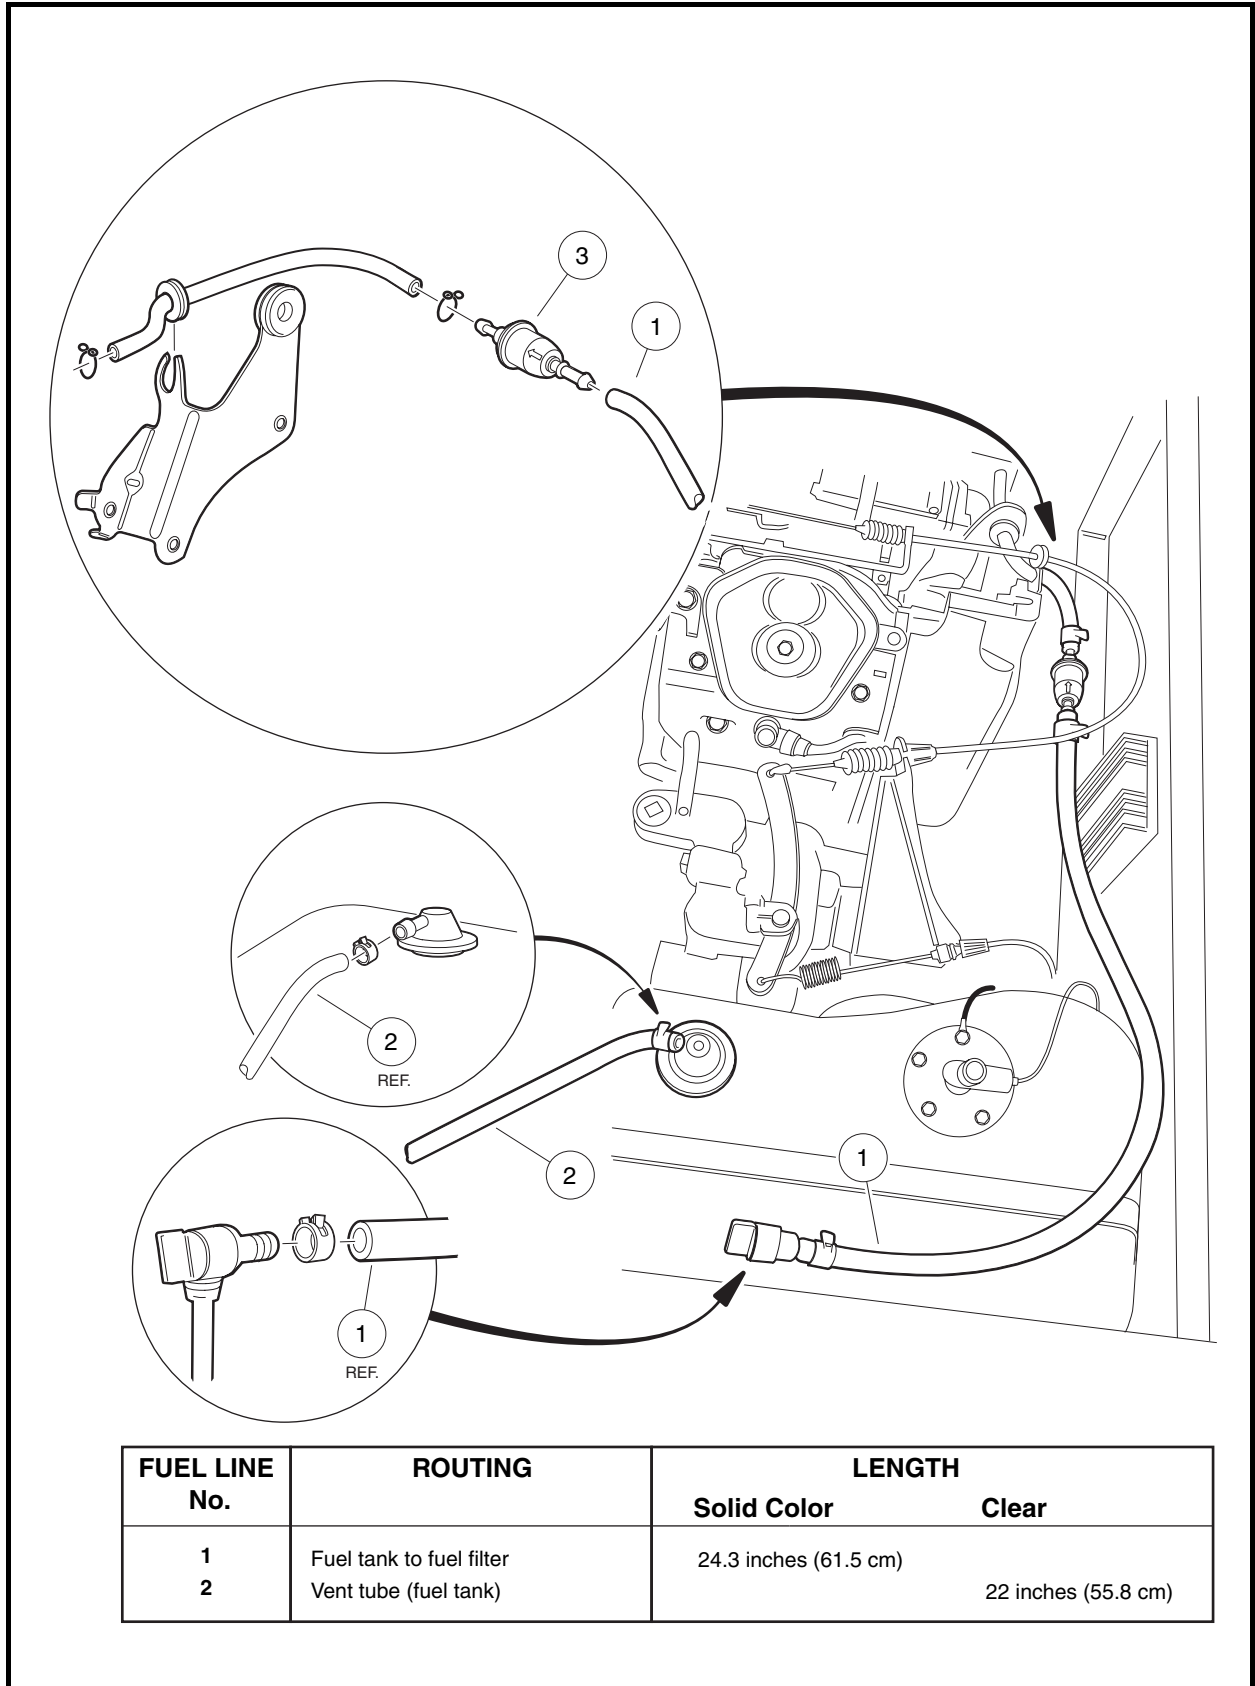

Figure 13a-4 Fuel System (Gasoline Vehicles)
One in-line filter (3) is installed between the fuel tank and the fuel pump (**Figure 13a-4, Page 13a-9**). Fuel filters, fuel lines, and the fuel tank vent should be inspected periodically for leaks and replaced when necessary. Filter changes should not exceed the recommended interval. **See Periodic Service Schedule on page 10-1.** Replace the fuel filter as instructed. **See the Honda GX620 engine manual (CCI P/N 102615401).**